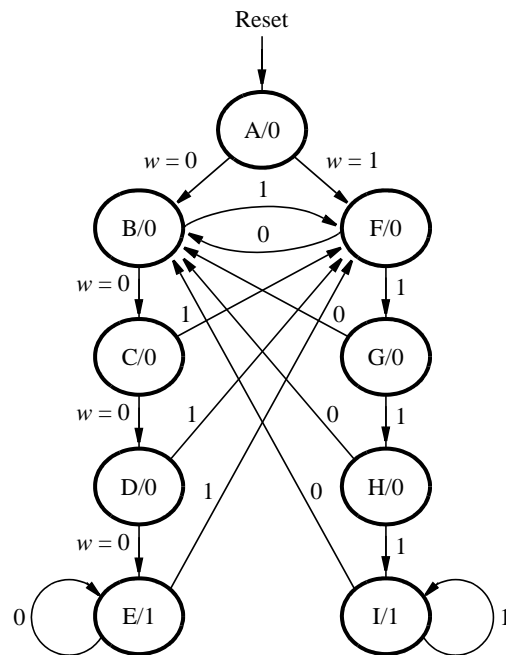

Figure 2. A state diagram for the FSM.
A state diagram for this FSM is shown in Figure 2. For this part you are to manually derive an FSM circuit that implements this state diagram, including the logic expressions that feed each of the state flip-flops. To implement the FSM use nine state flip-flops called  $y_8, \dots, y_0$  and the one-hot state assignment given in Table 1.
For this part you are to write another style of VHDL code for the FSM in Figure 2. In this version of the code you should not manually derive the logic expressions needed for each state flip-flop. Instead, describe the state table for the FSM by using a VHDL CASE statement in a PROCESS block, and use another PROCESS block to instantiate the state flip-flops. You can use a third PROCESS block or simple assignment statements to specify the output  $z$ .
4. To examine the circuit produced by Quartus II open the RTL Viewer tool. Double-click on the box shown in the circuit that represents the finite state machine, and determine whether the state diagram that it shows properly corresponds to the one in Figure 2. To see the state codes used for your FSM, open the **Compilation Report**, select the **Analysis and Synthesis** section of the report, and click on **State Machines**.